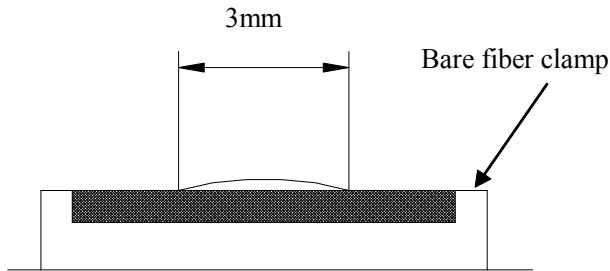

Figure H-3
- Referring to FigureH-3, turn the blade height adjustment screw so that the length of exposed blade edge along the bare fiber clamp is 4 to 5mm.